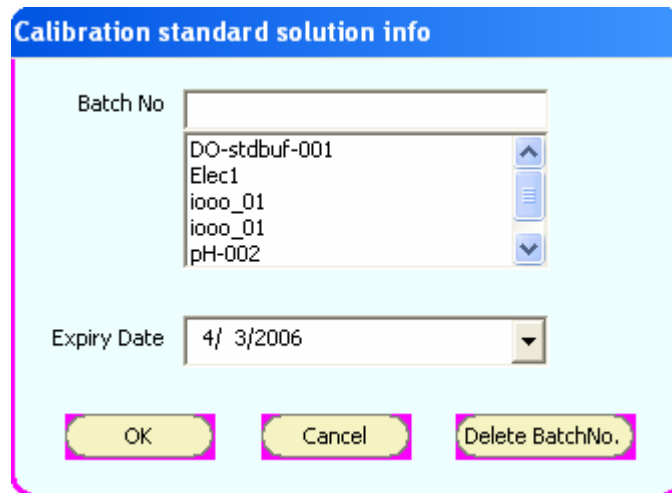

Figure 26 : Adding a new buffer
8. To add a new buffer, click **Add New Buffer** button. **Calibration standard solution info** screen appears. (Figure 26)